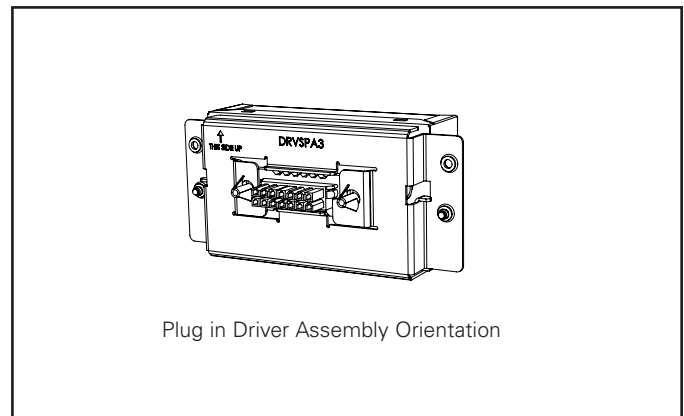

Figure 26.
10. Bring in the new plug-in driver box assembly while ensuring the INSTALL THIS END UP arrow points upwards (Figure. 26).